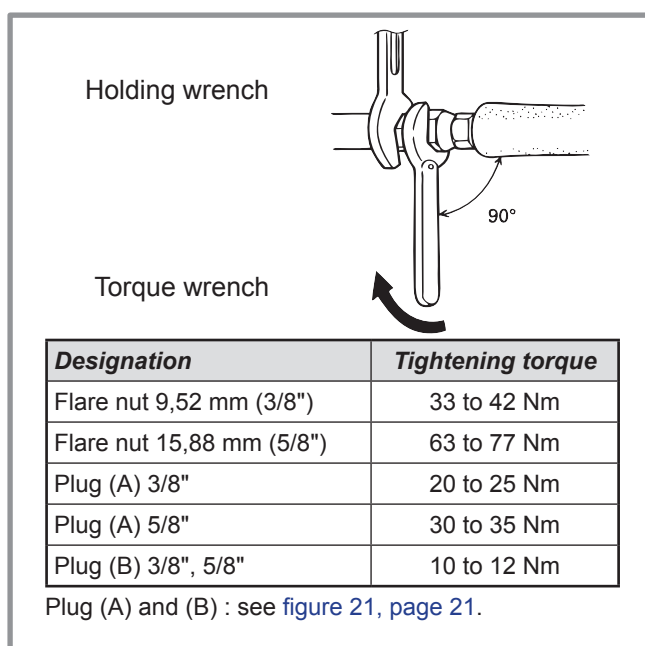

figure 18 - Tightening torque
- Remove the access plugs (A) from the valve controls.
- Refit the 2 original caps (be sure they are clean) and tighten them to the recommended tightening torque (figure 18, page 18). The sealing is performed in the caps only metal to metal.